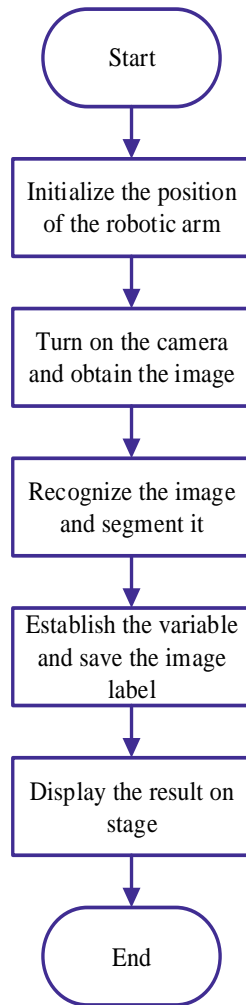

Figure 4.12 Image recognition and segmentation flow
(2) Design Program
Step 1: Analyze the program realization flow, and read the flow chart, as shown in Figure 4.12.